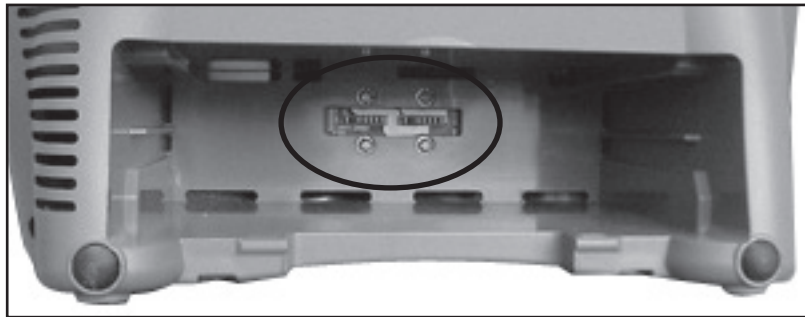

Fig 47: Screws
1.1 Remove the Power Cartridge and unscrew the 4 screws (PN: 6974-312-SEQ) holding the BBB pcb to the case shown in Fig 47.